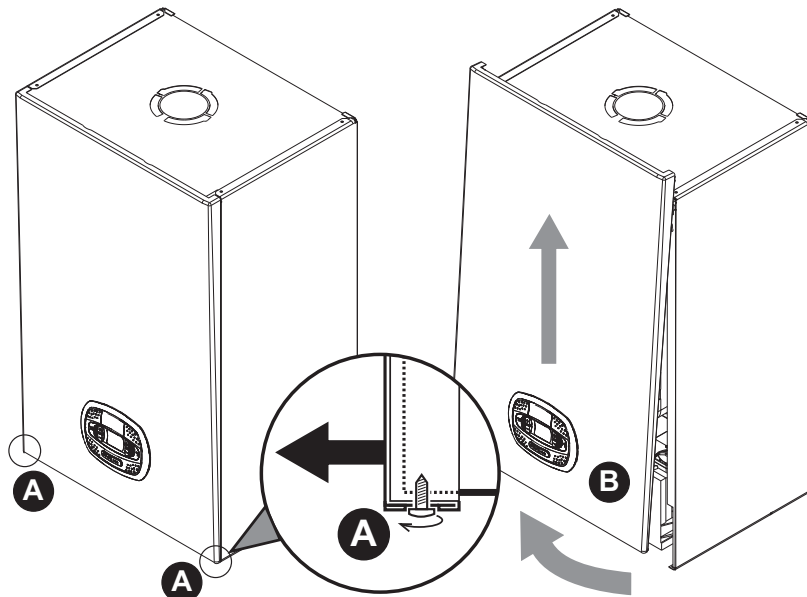

fig. 34- Front panel opening
1. Partially undo the screws **A** (see fig. 34).